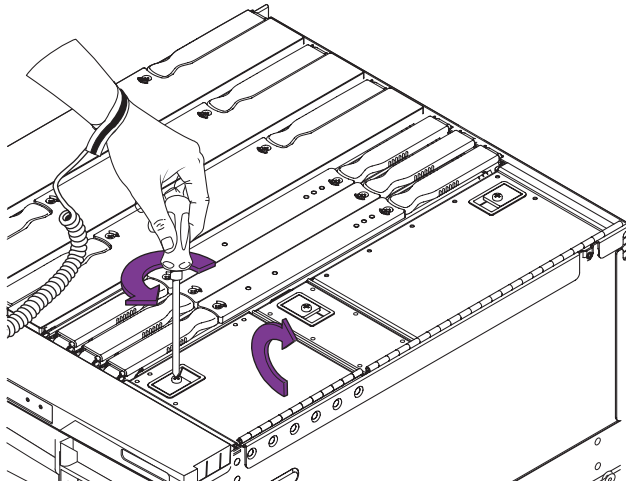

FIGURE 6-6 Opening the Media Bay Access Door
8. Open the media bay access door. Loosen the latch screw (FIGURE 6-6). Release the latch and lift the cover.